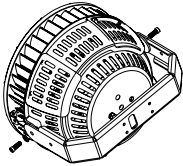

Fig. 3
1. Fix the mounting adaptor vertically on the external housing (Fig 3).